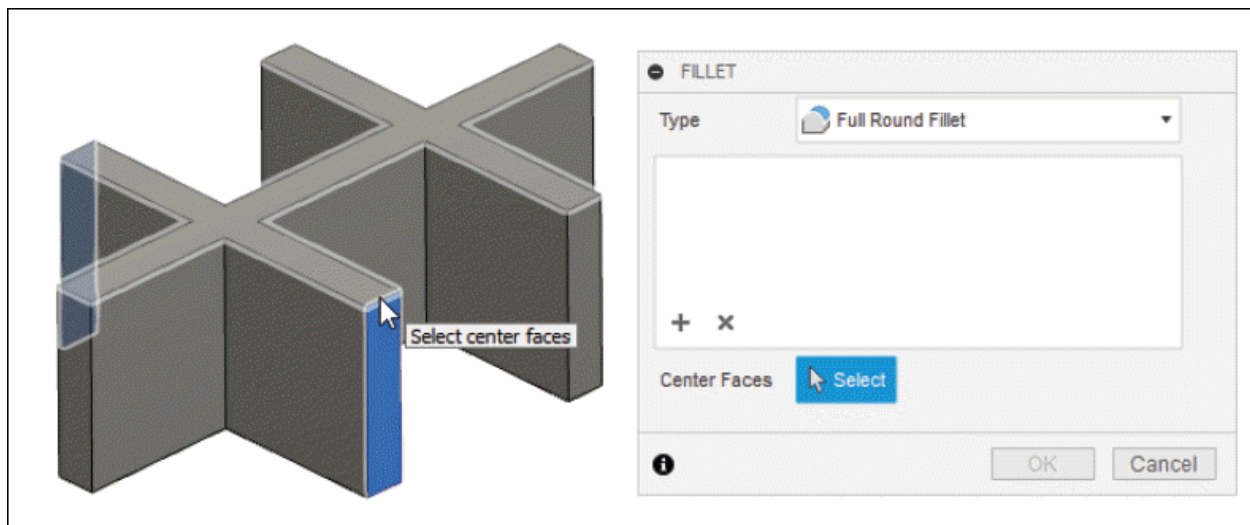

Figure-18. Selecting center face of the model
- The **Select** button of the **Center Faces** section is active by default. Select desired center face of the model to create full round fillet; refer to Figure-18.